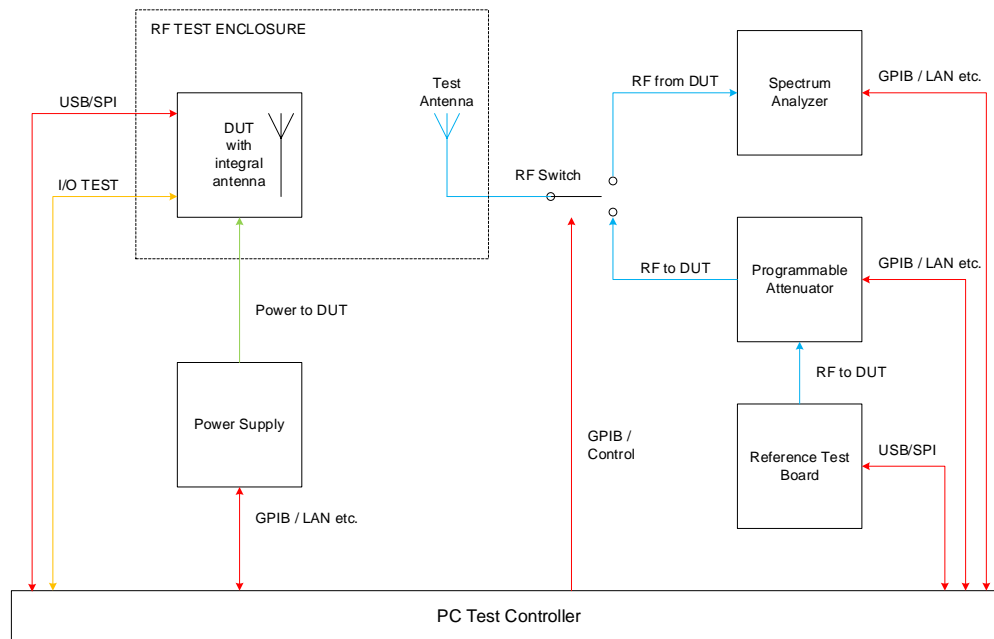

Figure 1: Customer product test setup block diagram
Figure 1 below shows the test set up for testing DW3000-based products. The diagram assumes that the product contains an integral antenna, i.e. there is no RF connector and therefore the product must be tested in an over-the-air (OTA) test set up. Typically, this setup consists of an RF absorber-lined screened box in which the Device-Under-Test (DUT) and the test antenna are installed at a known distance apart.
**Note:** Equipment vendors such as Litepoint (IQgig-UWB) and Rohde&Schwarz (CMP200) are now developing dedicated IEEE802.15.4A/Z UWB testers which will be capable of replacing the reference board, programmable attenuators and spectrum analyser shown in Figure 1.